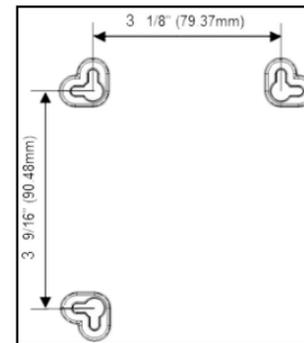
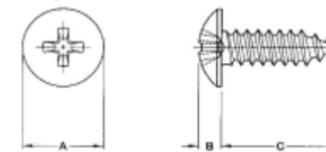

Figure 4: Mounting bracket measurements
Figure 5: Bracket distances
You can mount the device on a wall using the mounting brackets on the bottom of the device. Refer to Figure 4. It is recommended to use two round or pan head screws, not included, as shown in Figures 5 and 6.
1. Install two screws horizontally apart on a wall using the measurements shown in Figure 4. Ensure the screws protrude from the wall to fit the device between the head of the screw and the wall. If the screws are installed in drywall, use hollow wall anchors to ensure the unit does not pull away from the wall due to prolonged strain from the cable and power connectors.